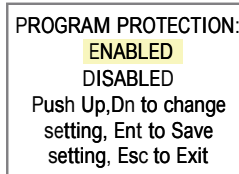
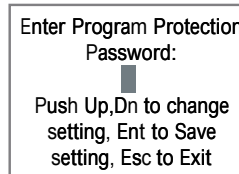

Figure 11: Program Protection Screen
Figure 12: Program Protection Password Screen
If the PP password is set to any value more than Zero, the firmware will prompt with “Enter Program Protection Password” (see **Figure 12**).
In order to get access to “Change Program Protection (PP) Password” menu, Program Protection must be disabled. If PP password is set to Zero (Disabled), entering PP Password is not required and PP can be disabled from “Program Protection” menu (see **Figure 11**). If PP Password is set to any value more than Zero, the firmware will prompt with “Enter Program Protection Password” (see **Figure 12**). The user must enter a program protection code (up to 3 digits). If the PP password is lost or forgotten, contact the factory or your distributor.